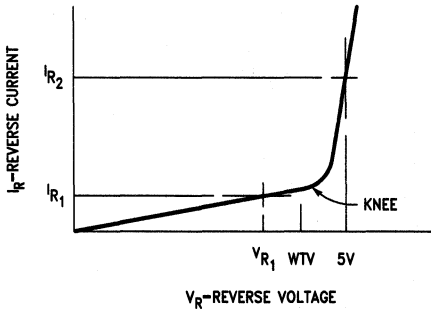

FIGURE 1
**BV Breakdown Voltage:** *Figure 1* shows the reverse characteristic of a typical silicon diode. Breakdown voltage is generally the reverse voltage at a point beyond the "knee" of the reverse characteristic. In *Figure 1*, the breakdown voltage is specified at a reverse current of  $I_{R2}$ .
**IR Reverse Current:** The leakage current which flows in the reverse direction through a diode when a reverse voltage is applied to the diode. Referring to *Figure 1*,  $I_R$  is usually measured at a specified reverse voltage at a point below the "knee" on the reverse characteristic.
**VR DC Blocking Voltage Rating:** The continuous reverse voltage at which a rectifier can be safely operated without going beyond the "knee" in the reverse characteristic (*Figure 1*).
**$WIV$  Working Inverse Voltage:** The maximum reverse voltage at which a diode can be operated below the "knee" on the reverse characteristic. See *Figure 1*.